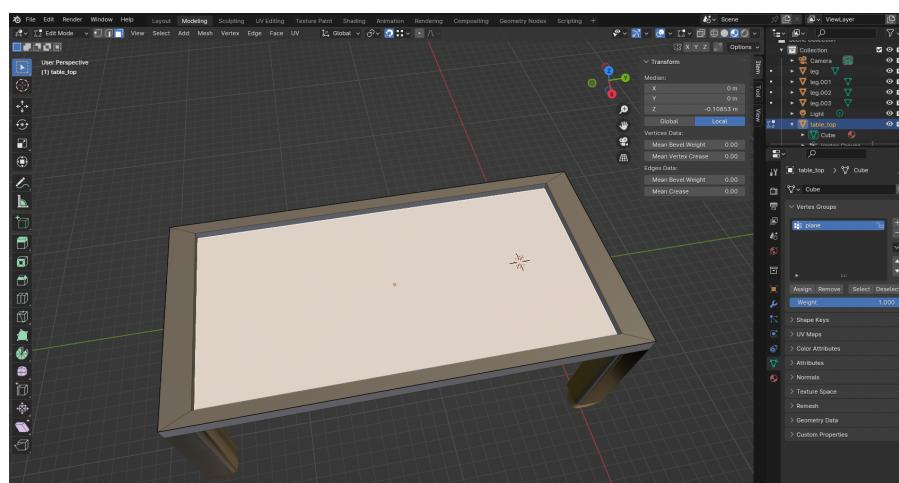

Figure 1.15: Creating vertex group.
24. Select inner surface of the table (see Fig. 1.15) and select *Data* in the *Properties editor*.